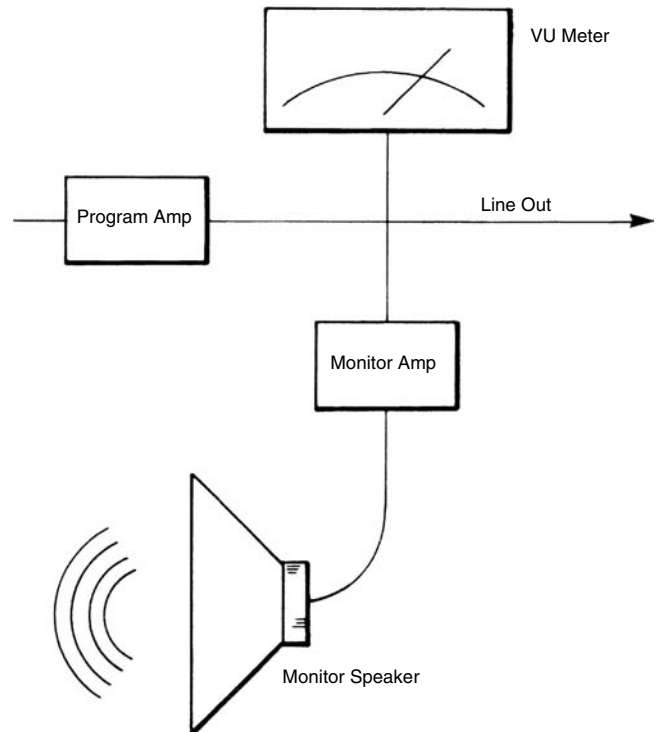

FIGURE 3.8 A block diagram of the monitor amplifier section of an audio console.
Once the signal is through the input gain controls, it's amplified in a program amplifier and then sent several places (see Figure 3.8). One of these is a **monitor amplifier**. This amplifies the signal so that it can be sent into a **monitor speaker** to enable the operator to hear the signal that is going out. Boards usually contain a simple potentiometer to control the gain of the monitor speaker. For instance, our example board has a pot labeled STUDIO, which controls the volume of the monitor speakers. This control in no way affects the volume of the sound being sent out to an audio recorder (or transmitter, etc.). It only controls the volume for the person listening in the control room. A common mistake of beginning broadcasters is to run the studio monitors quite loud and think all is well, while in reality they have the signal going through the audio board (and therefore to a recorder or on the air) at a very low level. It's important for the operator to be aware of the level of sound going out the line.
5. Audible sound comes from what in Figure 3.8?